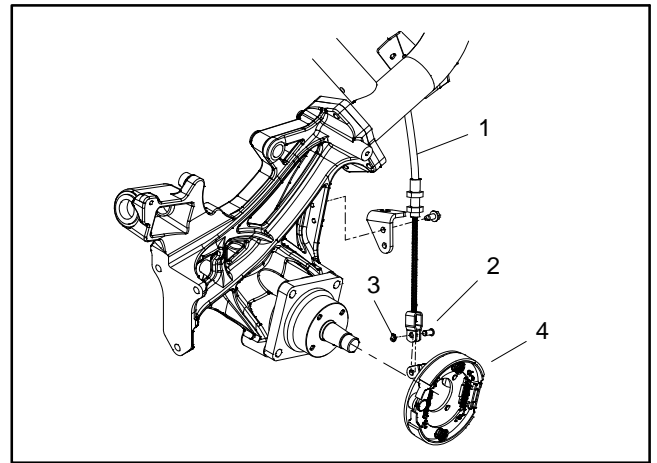

Figure 8
3. Loosen, but do not remove, lock nut (item 7) from wheel motor shaft.
6. Remove e-ring and clevis pin that secure brake cable to brake actuator lever. Position brake cable end away from lever (Fig. 8).
8. Install new lock nut (item 7) onto the wheel motor shaft to secure brake drum assembly.
9. Position brake cable end to brake actuator lever. Secure cable to actuator lever with clevis pin and e-ring (Fig. 8).